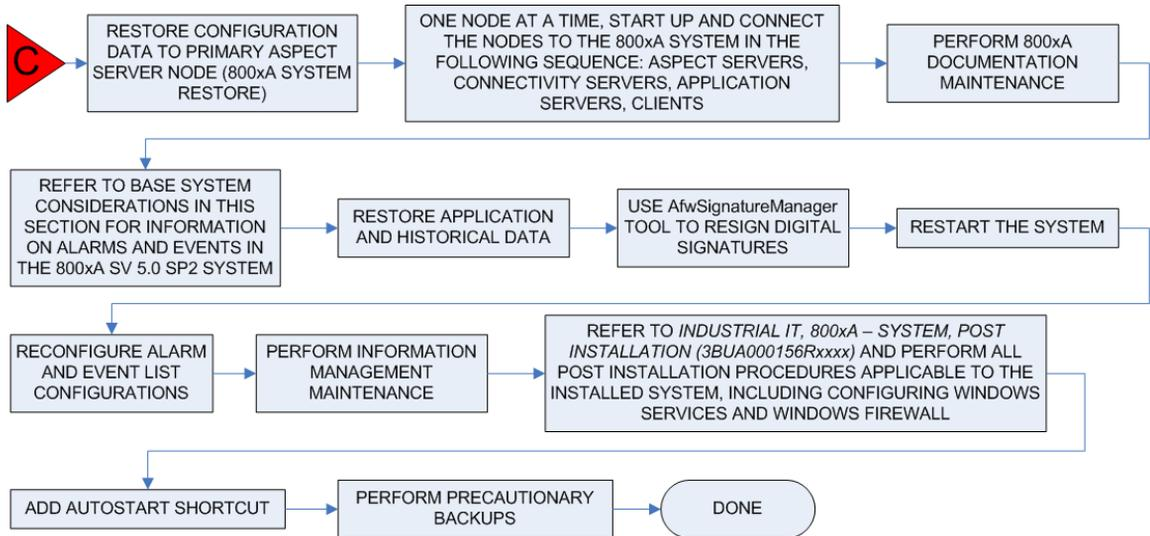

Figure 50. System Restore and Post Upgrade Flow
- 800xA System software and configuration data upgrade (Figure 50).